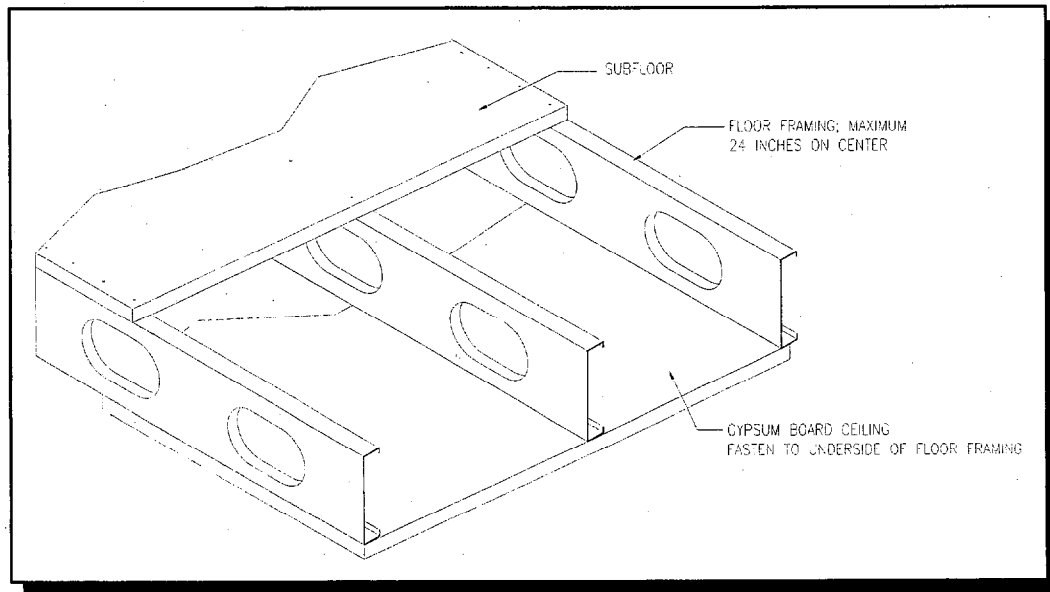

Figure 4.23. Gypsum Board Bracing Bottom Flanges
*Gypsum Board* can laterally brace the bottom flanges if installed with minimum #6 screws in accordance with local building code requirements as shown in Figure 4.23.